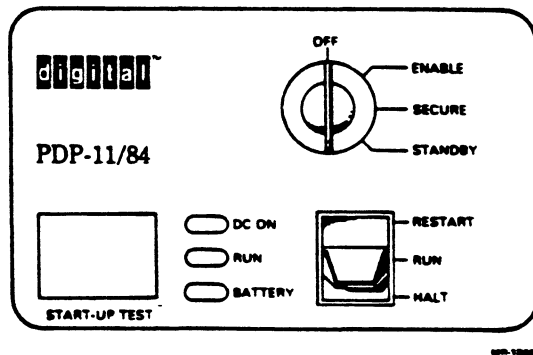

FIGURE 2-11 FRONT PANEL CONTROLS AND INDICATORS
6. Set the front panel keylock switch to OFF. (See Figure 2-11.)
The front panel consists of a keylock power switch, RESTART/RUN/HALT Switch, a Start-up Test LED display, and POWER and RUN indicators. Figure 2-11 shows the front panel controls and indicators.